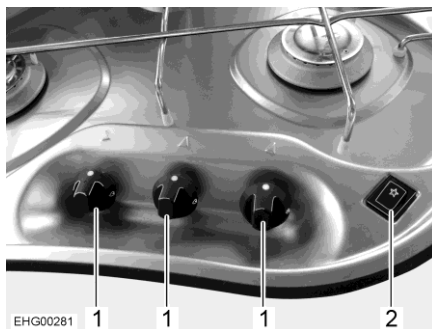

Fig. 98 Operating controls (gas cooker)
- Turn the control knob (Fig. 98,1) on the burner you wish to use to the ignition position (large flame).
- Press rocker switch (Fig. 98,2). Ignition sparks are generated at the burner.